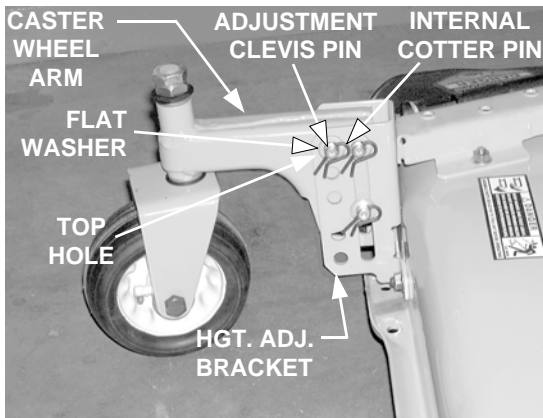

Figure 6
Remove the internal cotter pins, flat washers, and adjustment clevis pins to adjust the front caster wheel arms to their highest setting (lowest deck setting) in the height adjustment brackets of the deck (See Figure 6).
- Remove the internal cotter pins, flat washers, and adjustment clevis pins to adjust the front caster wheel arms to their highest setting (lowest deck setting) in the height adjustment brackets of the deck (See Figure 6).